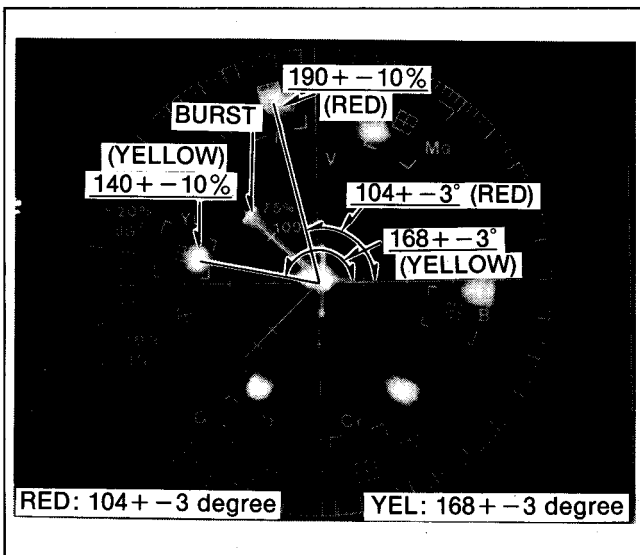

Fig. C23
7. \* Push the [INC] or [DEC] keys until phase of red and yellow vectors are as close as possible to Spec. See Fig.C23.
10. \* Push [INC] or [DEC] keys until phase of red and yellow vectors are as close as possible to Spec. See Fig.C23.
13. \* Push [INC] or [DEC] keys until phase of red and yellow vectors are as close as possible to Spec. See Fig.C23.
15. Repeat the Step(3) to Step(14) until vectors becomes within Spec. as shown in Fig.C23.